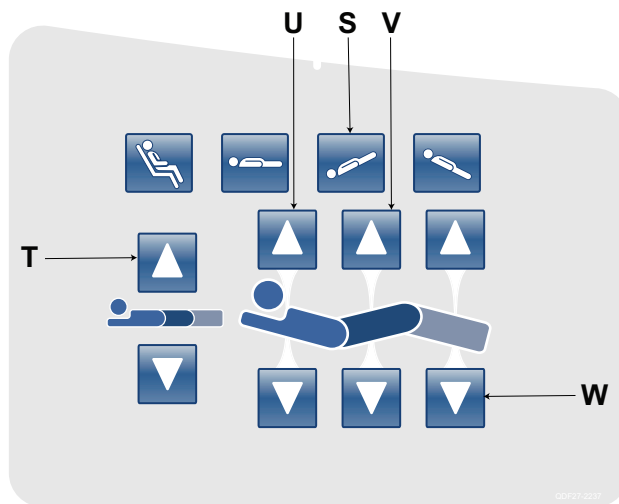

Figure 20 – Complete calibration
28. To place the bed at the highest height, press the **Trendelenburg (foot lift up) (S)** button and **Bed Height Up (head lift up) (T)** button simultaneously (Figure 20).
29. To place the Fowler and Gatch section of the bed at the highest height, press the **Fowler Up (U)** button then the **Gatch Up (V)** button (Figure 20).
30. To place the foot at the lowest position, push the **Foot Down (W)** button until limit is met (Figure 20).